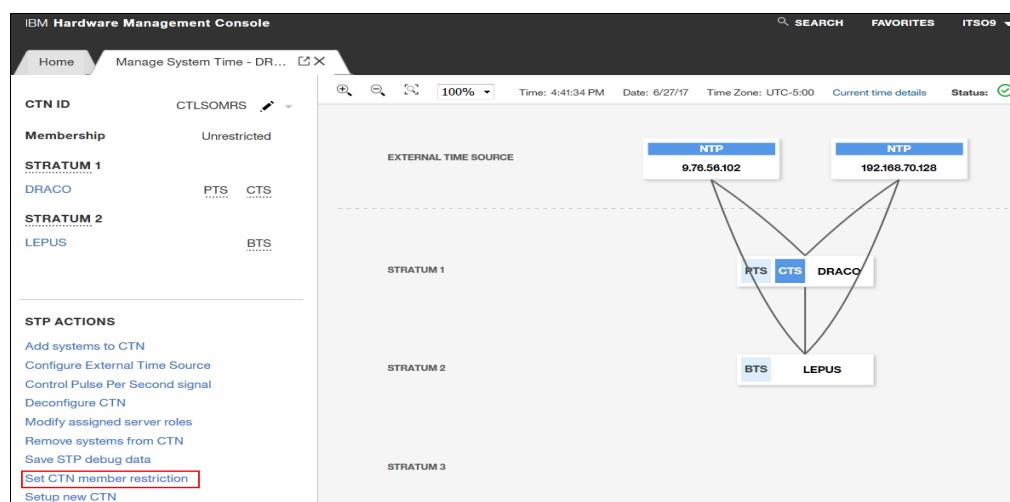

Figure 8-29 Set CTN member restriction
1. Select **Set CTN member restriction** from STP ACTIONS (Figure 8-29).